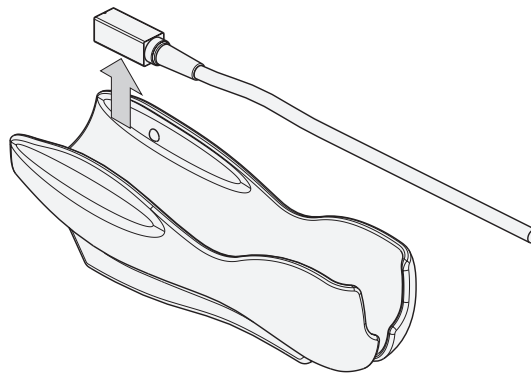

Figure 11 How to release Magnetic Position Sensor from the attachment
- (2) Release the magnetic position sensor from the magnetic position sensor attachment as shown in Figure 11.